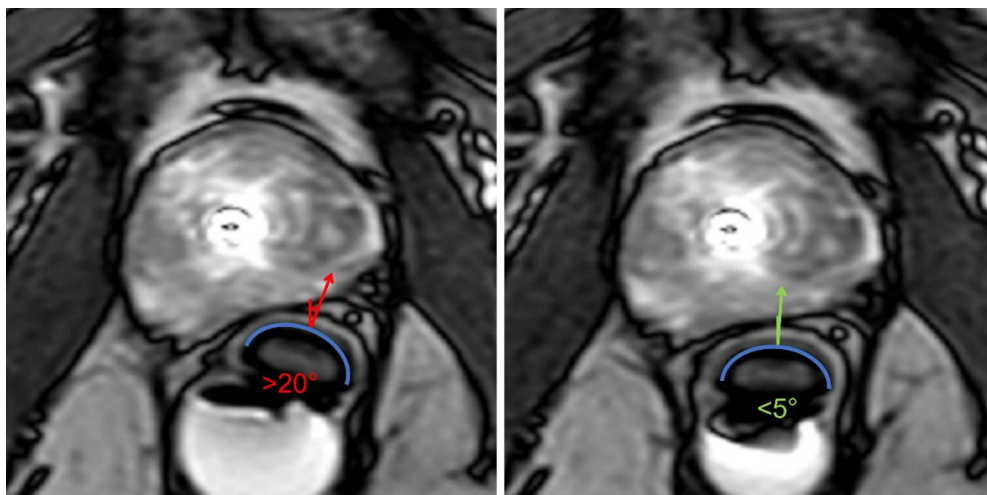

Figure 33: Axial images depicting ECD oriented incorrectly (left, rotated more than 20 degrees) and correctly (right, facing up towards the prostate)
- The orientation of the cooling window should face the prostate (anterior), as confirmed on the axial MRI (*Figure 33*). Check that the ECD cooling window is adjacent to and facing the prostate, with the handle-neck joint of the ECD at the anal verge and the raised, tactile ridge on the ECD handle facing anteriorly.